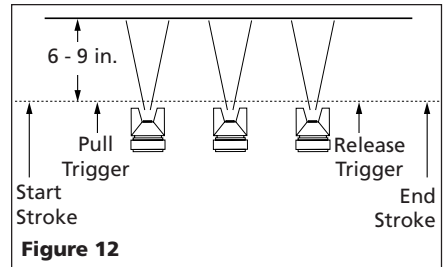

Figure 12
2. "Trigger" the gun properly. Start the gun moving at the beginning of the stroke BEFORE SQUEEZING THE TRIGGER and release the trigger BEFORE STOPPING GUN MOVEMENT at the end of the stroke. This procedure will "feather" (blend) each stroke with the next without showing overlap or unevenness (See Figure 12).